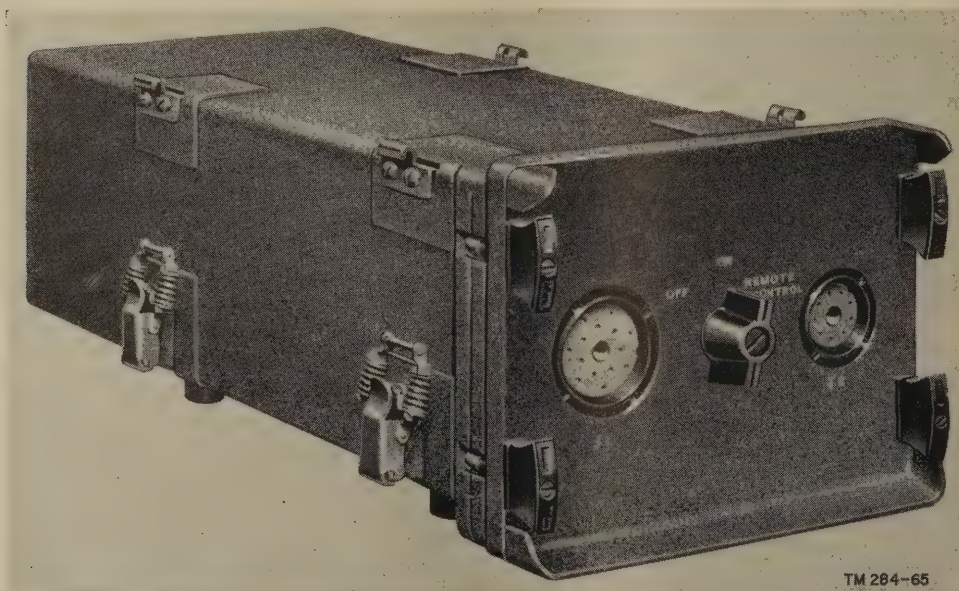
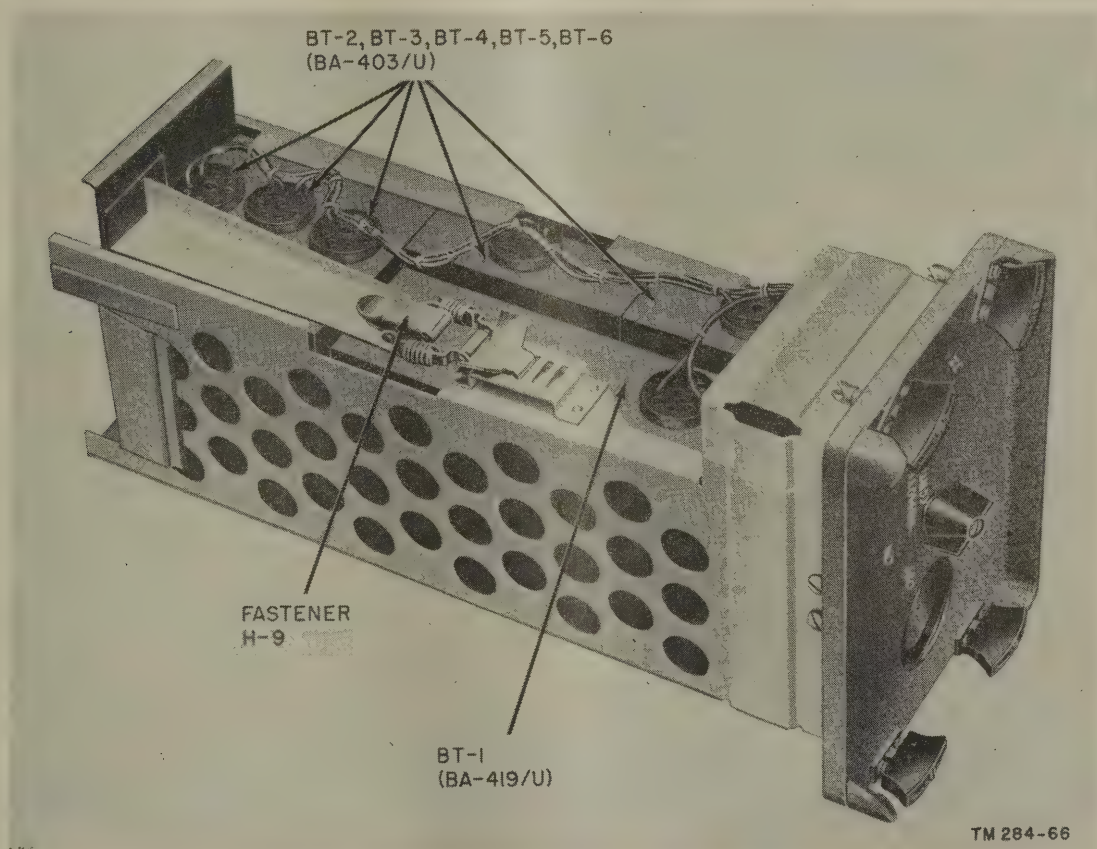

Figure 66. Case CY-590/GRC, front view.
Figure 69. Case CY-590/GRC, case removed and batteries installed.
b. Case CY-590/GRC (fig. 66).
- (1) Case CY-590/GRC is a metal battery box which is used to power the receiver of Set 1. This enables the operator who cranks the hand generator to rest during receiving periods. The facilities provided by the various installations are given in the chart in paragraph 140.
- (2) The battery box contains five series-connected 1.5-volt batteries (BA-403/U) and one 90-volt battery (BA-419/U) which are held by a tray fastened to the case panel (fig. 69). To reach the battery tray, loosen the Dzus fasteners which connect the panel to the case. Slide the panel-tray assembly from the case (fig. 68).
c. Install five 1.5-volt Batteries BA-403/U and one 90-volt Battery BA-419/U in the case. Connect the batteries as indicated in figure 69. Replace the battery tray.